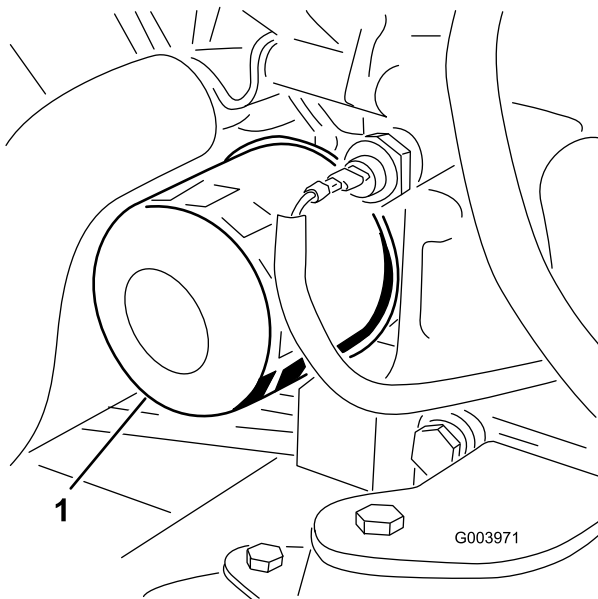

Figure 62
3. Remove the oil filter (Figure 62).